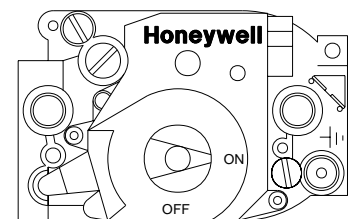

Figure 1. Gas control knob shown in "ON" position.
- E. The MiniMax Plus incorporates (9) nine indicator lights to aid you in the operation of the heater, and to assist in diagnosing a failure in the heater's function.
7. Wait five (5) minutes to clear out any gas. If you then smell gas, **STOP!** Follow "B" in the safety information above. If you don't smell gas, go to the next step.
8. Turn knob on gas control counterclockwise  to "ON"; see Figure 1.